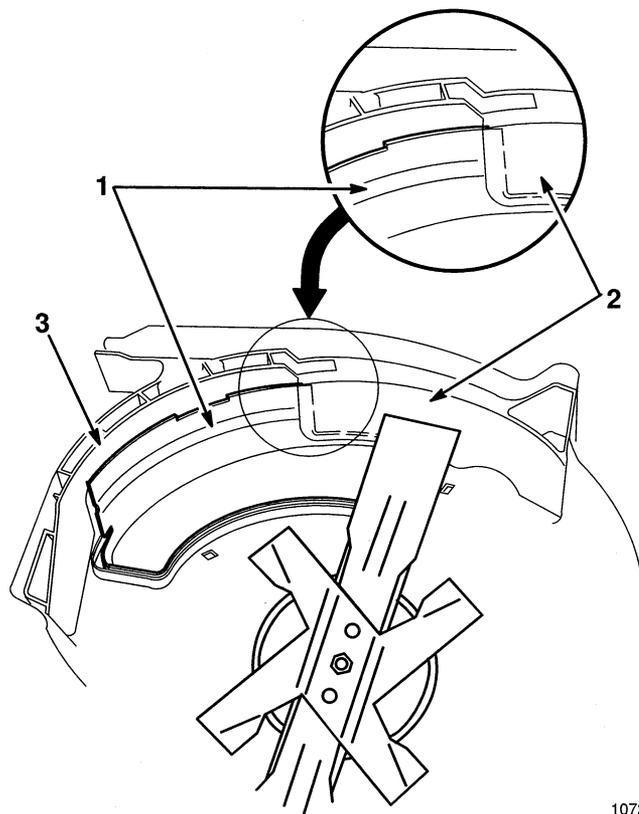

Figure 41
- Check clearance between blade tips and chute baffle making sure there is no contact (Fig. 41).
Note: The chute baffle must go behind the front deck baffle and between blade and toe guard to prevent contact with blade (Fig. 41).